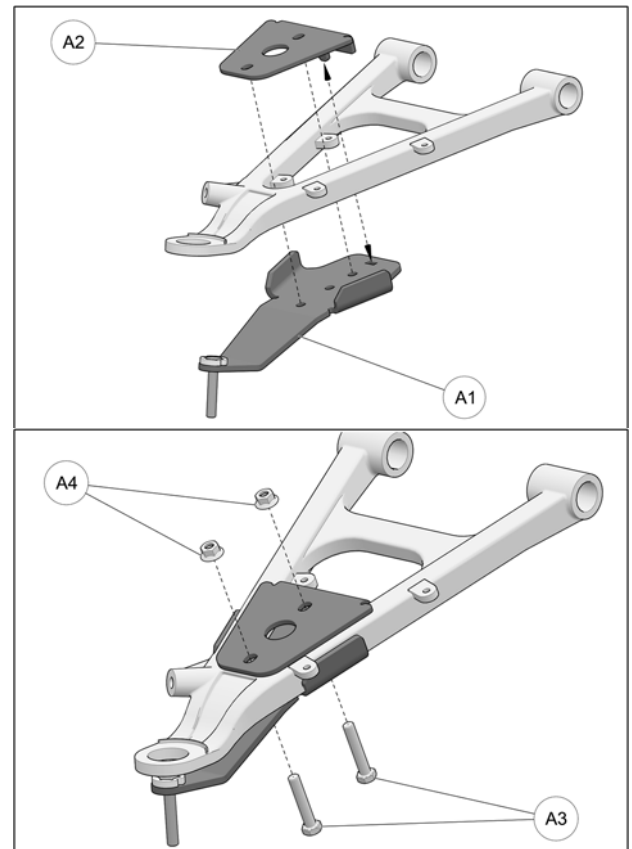

Fig. 16
5. Position bottom part of anchor bracket (A1) assembly under front lower suspension arm, as shown in the figure below. Position bracket cover (A2) over suspension arm and align holes in cover and bottom part. Insert M10x55mm bolts (A3) through top and secure the two parts together with nuts (A4) provided. Tighten assembly to 50 N•m [37 lb•ft] of torque. Refer to Fig. 16